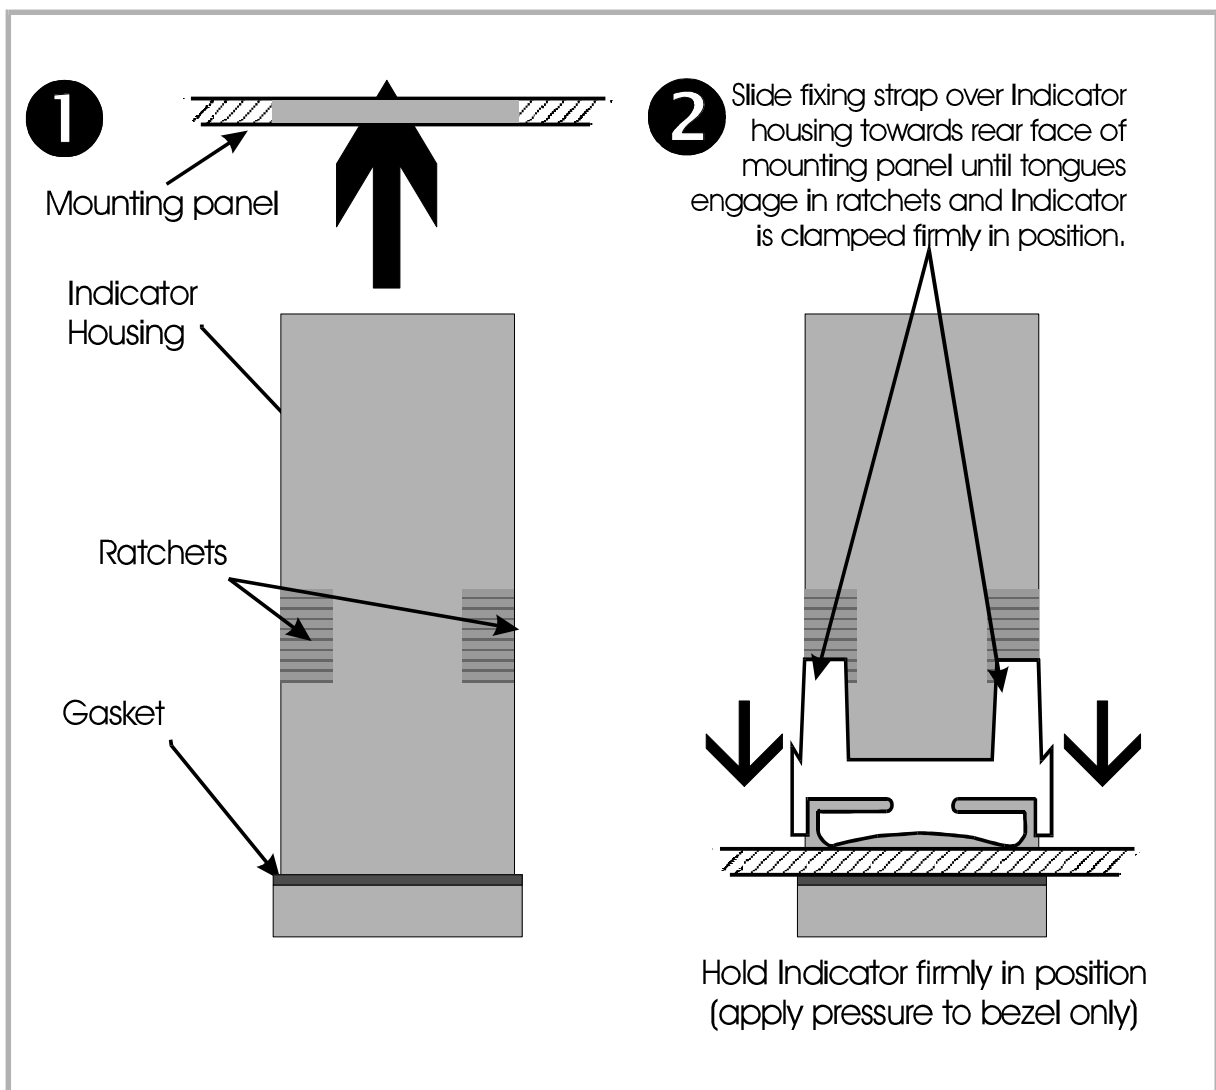

Figure 1-3 Panel-Mounting Procedure
2. Slide the fixing strap in place (see Figure 1-3) and push it forward until it is firmly in contact with the rear face of the mounting panel (the tongues on the strap should have engaged in matching ratchet positions on the housing and the fixing strap springs should be pushing firmly against the mounting panel rear face).